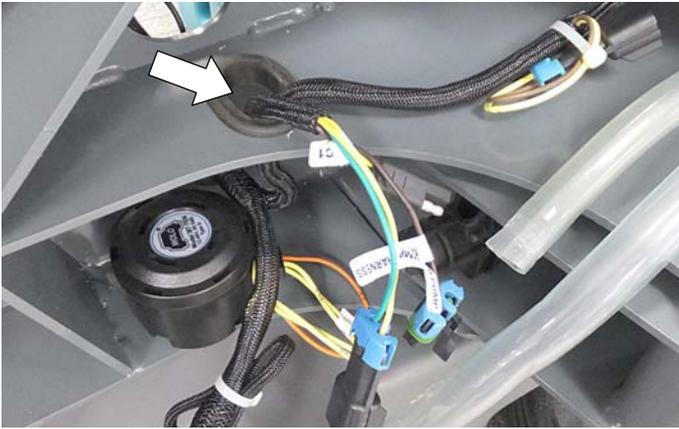

Fig. 16
- Continue routing the main harness connector, ec-H2O pump connector and capacitor plug (A, B, C) through frame grommet as shown (Figure 16).